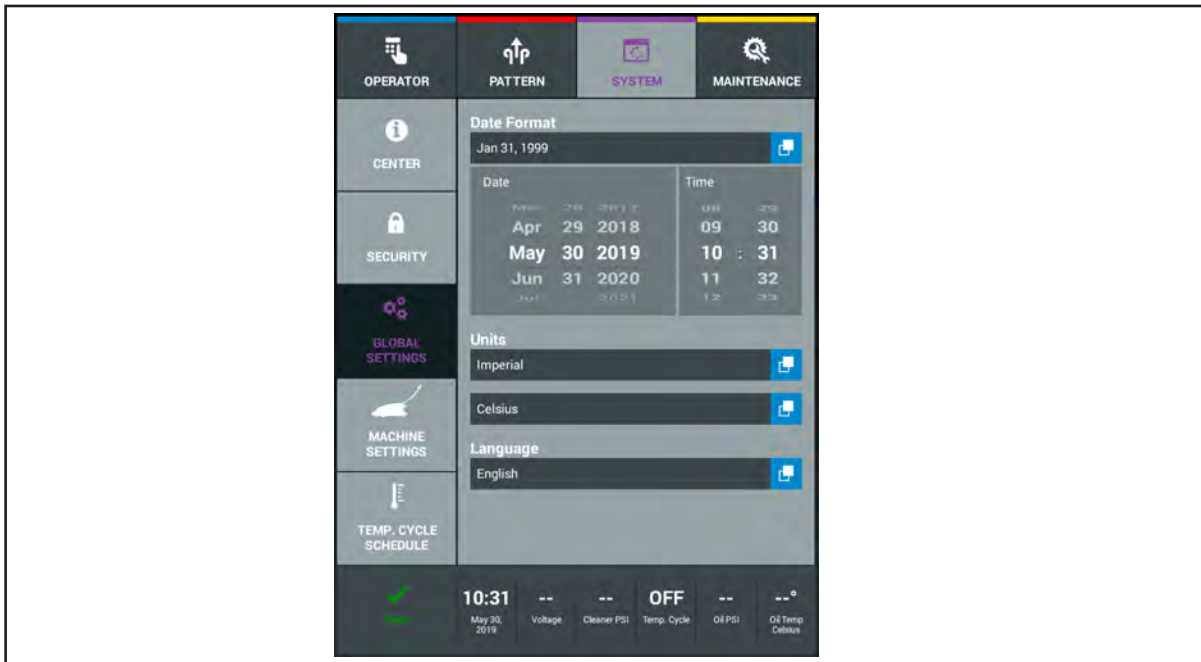

Figure 4-29. System Global Settings
The system settings are used to set clock functions like the date, time, and date format (MM/DD/YY or DD/MM/YY). The operator can select their preferred language and whether to see units of measure expressed in Imperial (US) or Metric (International) as well as setting the temperature format between Fahrenheit or Celsius. Refer to *Figure 4-29*.